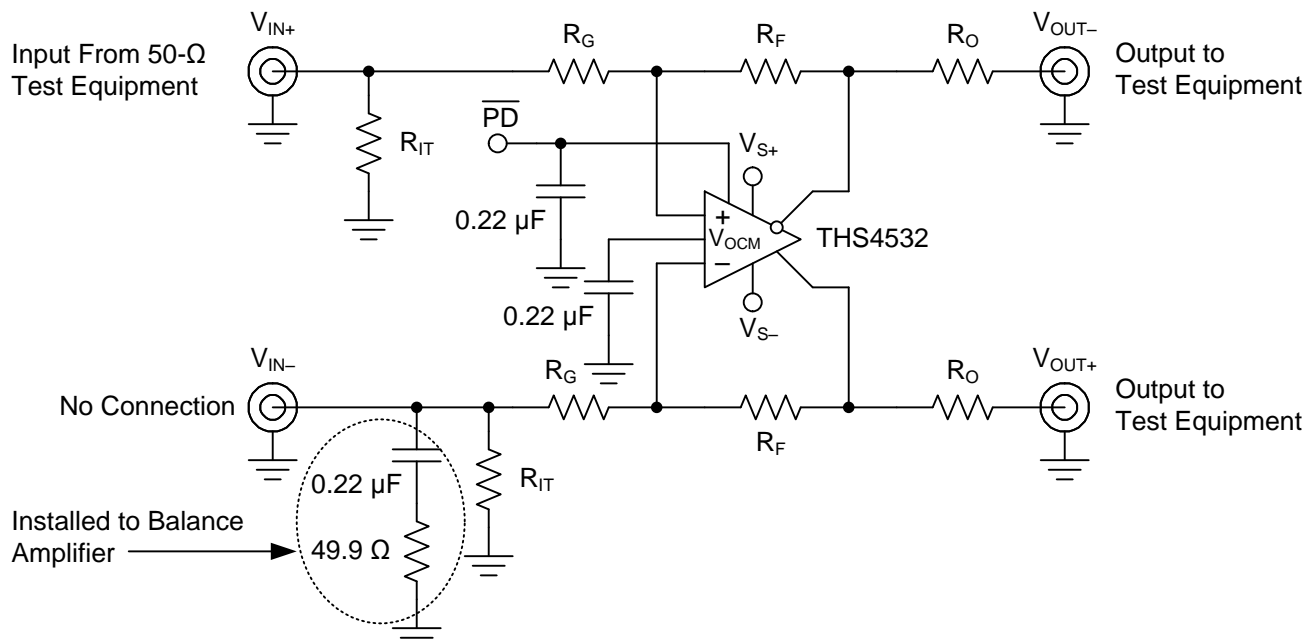
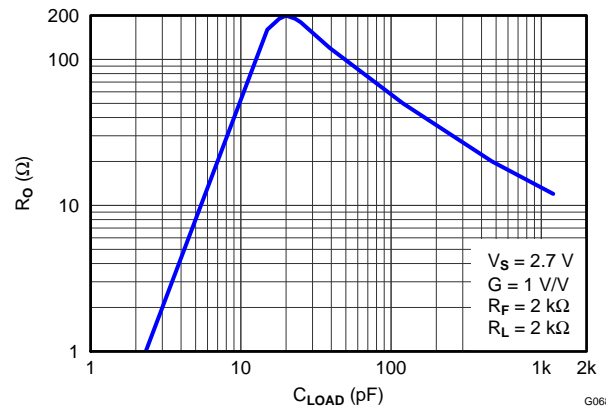
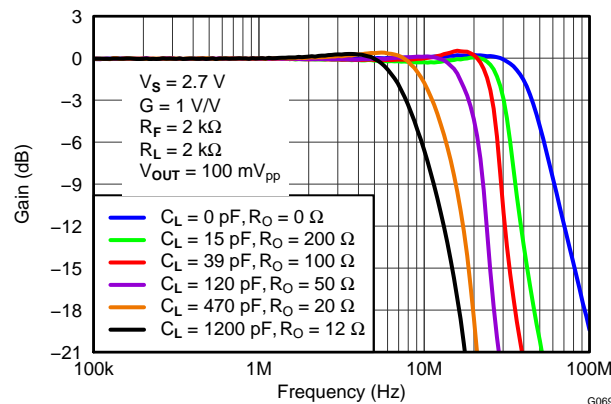

Figure 71. Slew Rate, Transient Response, Settling Time, Z_O , Overdrive Recovery, V_{OUT} Swing, and Turn-on/off Test Circuit
Figure 82. Recommended Series Output Resistor vs Capacitive Load for Flat Frequency Response
Figure 83. Frequency Response for Various R_O and C_L Values
The circuit shown in Figure 71 is used to measure slew rate, transient response, settling time, overdrive recovery, and output voltage swing. Turn on and turn off times are measured with 50 Ω input termination on the \overline{PD} input, by replacing the 0.22 μ F capacitor with 49.9 Ω resistor.
Inserting R_O will compensate the phase shift and restore the phase margin, but it will also limit bandwidth. The circuit shown in Figure 71 is used to test for best R_O versus capacitive loads, C_L , with a capacitance placed differential across the V_{OUT+} and V_{OUT-} along with 2k Ω load resistor, and the output is measure with a differential probe. Figure 82 shows the optimum values of R_O versus capacitive loads, C_L , and Figure 83 shows the frequency response with various values. Performance is the same on both 2.7V and 5V supply.
4. A series output resistor is recommended to be placed as near to the output pin as possible. See Figure 82 "Recommended Series Output Resistor vs. Capacitive Load" for recommended values given expected capacitive load of design.